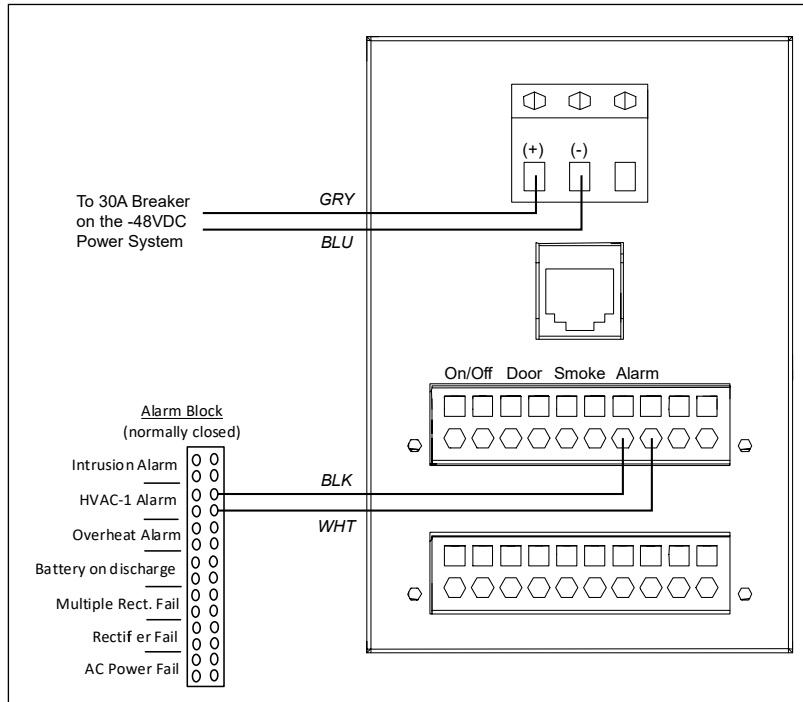

Figure 8 HVAC Wiring Terminals
6. Wire the HVAC, the alarm wiring, and the door switches as shown in Figures 8 and 9.